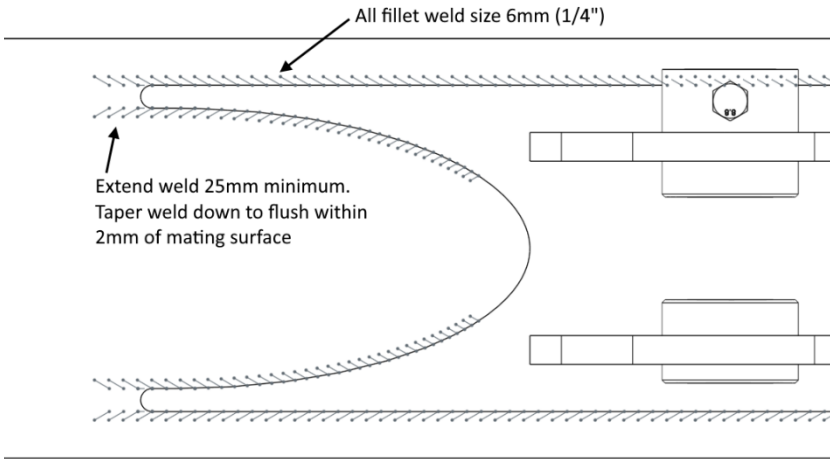

Figure 13: Welding instructions for the cylinder tail mount.
- Weld the tail mount to the excavator arm following the instructions in Figure 13 below. Use welding consumable that is compatible to ASTM A572 Grade 50 base material.